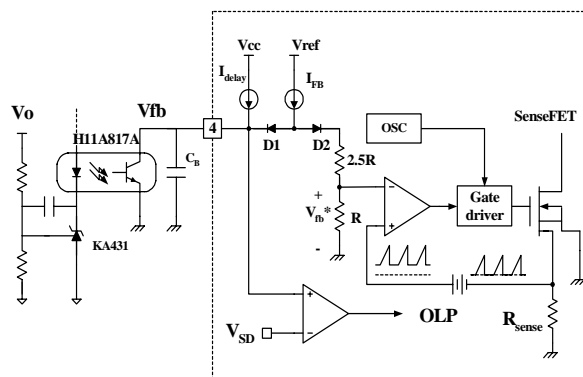

Figure 5. Pulse width modulation (PWM) circuit
**2. Feedback Control:** FSDM1265RB employs current mode control, as shown in Figure 5. An opto-coupler (such as the H11A817A) and shunt regulator (such as the KA431) are typically used to implement the feedback network. Comparing the feedback voltage with the voltage across the Rsense resistor in addition to the offset voltage makes it possible to control the switching duty cycle. When the reference pin voltage of the KA431 exceeds the internal reference voltage of 2.5V, the H11A817A LED current increases, thereby pulling down the feedback voltage and reducing the duty cycle. Typically this happens when the input voltage is increased or the output load is decreased.
**2.1 Pulse-by-pulse current limit:** Because current mode control is employed, the peak current through the Sense-FET is limited by the inverting input of PWM comparator (Vfb\*) as shown in Figure 5. Assuming that the 0.9mA current source flows only through the internal resistor (2.5R + R = 2.8 kΩ), the cathode voltage of diode D2 is about 2.5V. Since D1 is blocked when the feedback voltage (Vfb) exceeds 2.5V, the maximum voltage of the cathode of D2 is clamped at this voltage, thus clamping Vfb\*. Therefore, the peak value of the current through the Sense FET is limited.